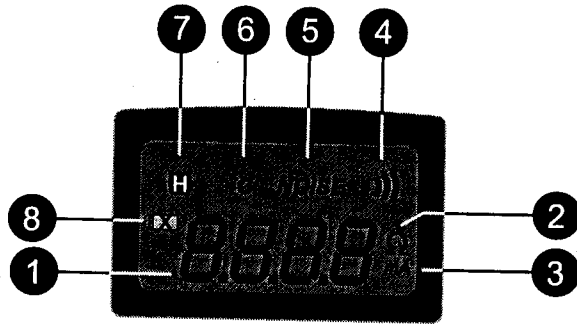

Fig. 2
4. LCD - See Figure 2 for details